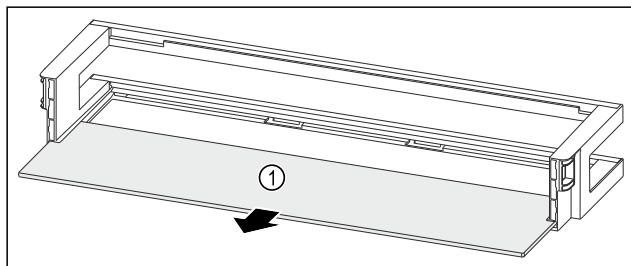

Fig. 109 Door racks with shelf
- ▶ Remove the shelf Fig. 109 (1).